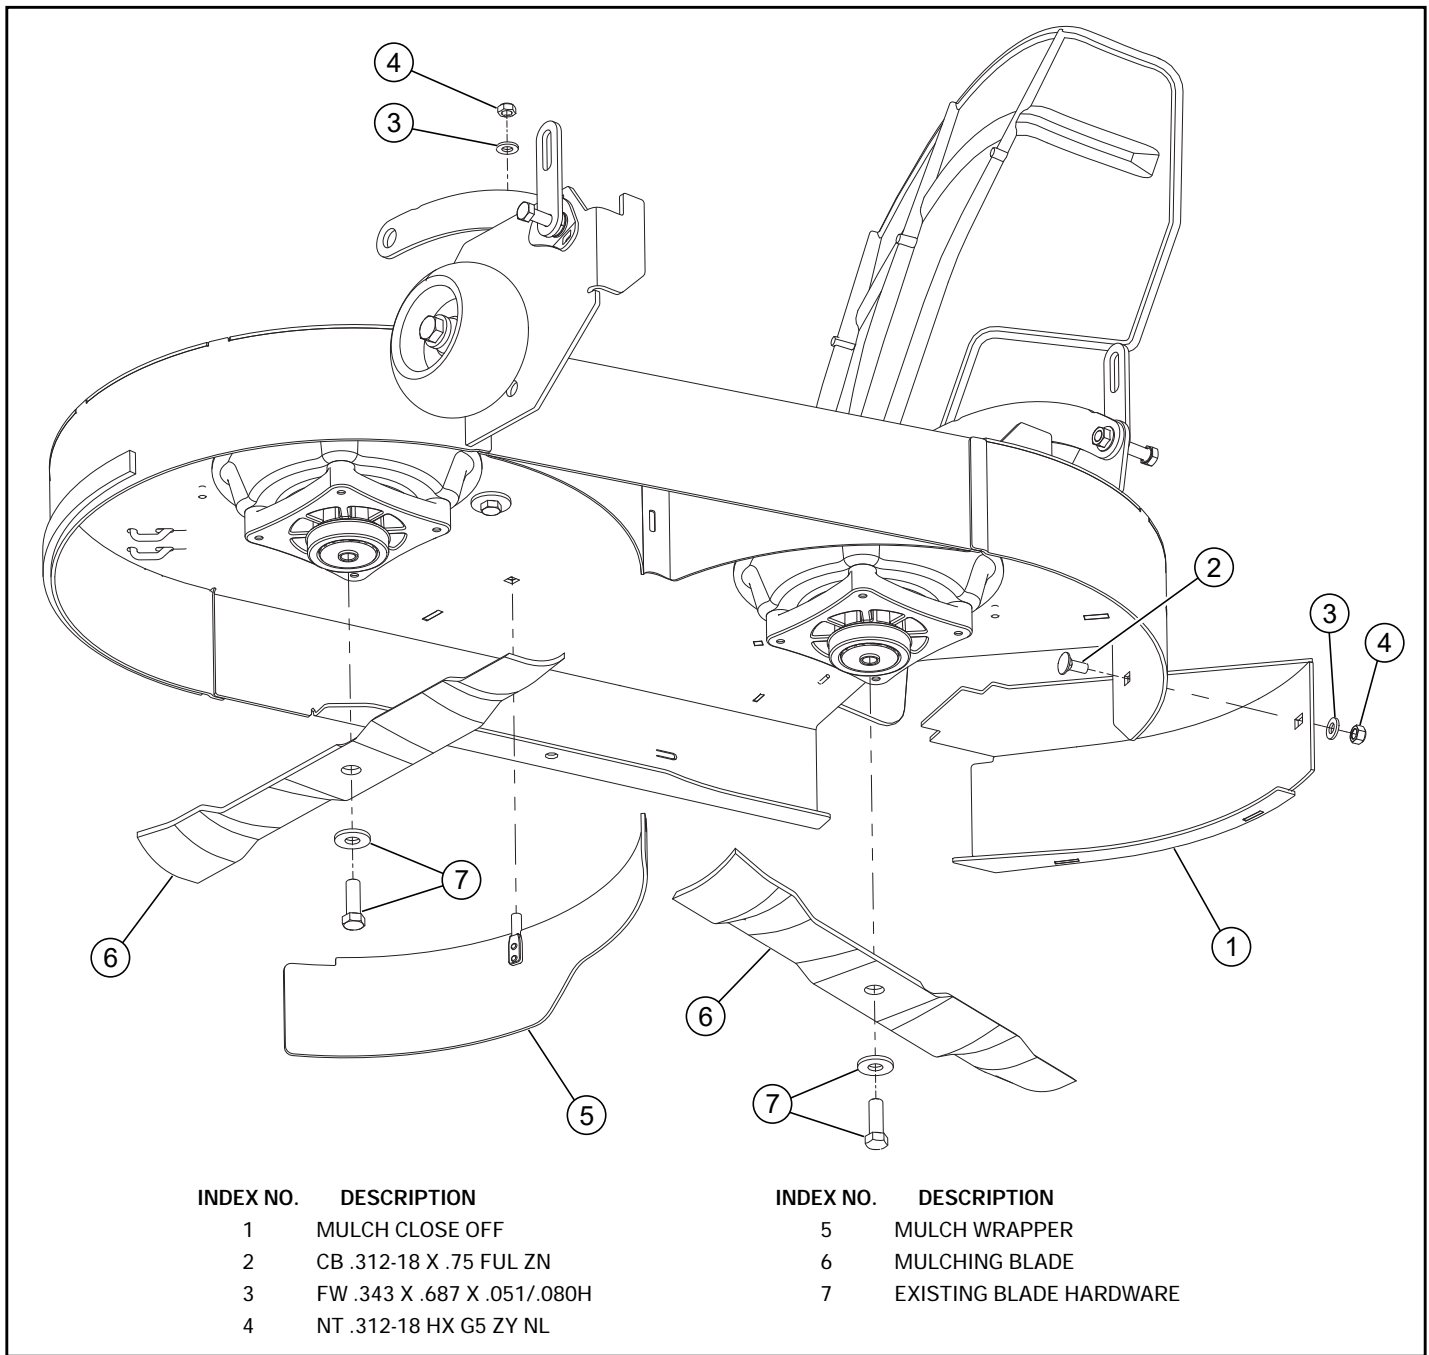
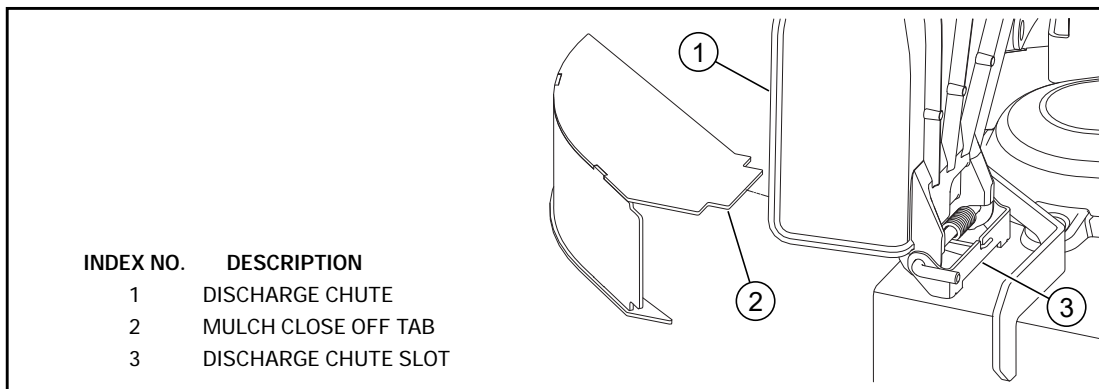

FIG. 3
FIG. 4
5. Install the mulch wrapper as shown. Fig. 3
6. Raise the deck discharge chute up. Insert the tab of the mulch close off into the slot of the discharge chute bracket. Secure the mulch close off with the hardware provided. Fig. 3 & Fig. 4
7. Install the mulching blades on the spindles using the existing blade hardware. Torque bolts to 48 ft-lbs. (65 N•m) when installing blades. Fig. 3